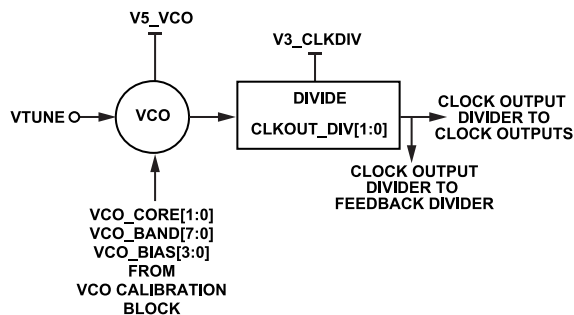

Figure 74. VCO and Clock Output Divider
The VCO core consists of four separate VCOs, each of which uses 256 overlapping bands, which allows the device to cover a wide frequency range without large VCO sensitivity (K_{VCO}). The output frequency can be further extended by utilizing the output divider (see Figure 74).
A 2-bit divider, $CLKOUT_DIV$, in Figure 74 is used to reduce the frequency seen at the output buffer and feedback divider. The clock output divide value (O) may be set to 1, 2, 4, or 8. Use the $CLKOUT_DIV$ bit to directly program the divide ratio. $CLKOUT_DIV$ is located inside the PLL loop. Therefore, any change to $CLKOUT_DIV$ requires a change to the N_INT bit fields, Bits[11:0] to maintain the same f_{PFD} and results in the PLL losing lock for a few loop time constants. For more information, see Table 18. For the relationship between the f_{REF} , f_{PFD} , f_{VCO} , and f_{OUT} frequencies, see the Output Frequency section.